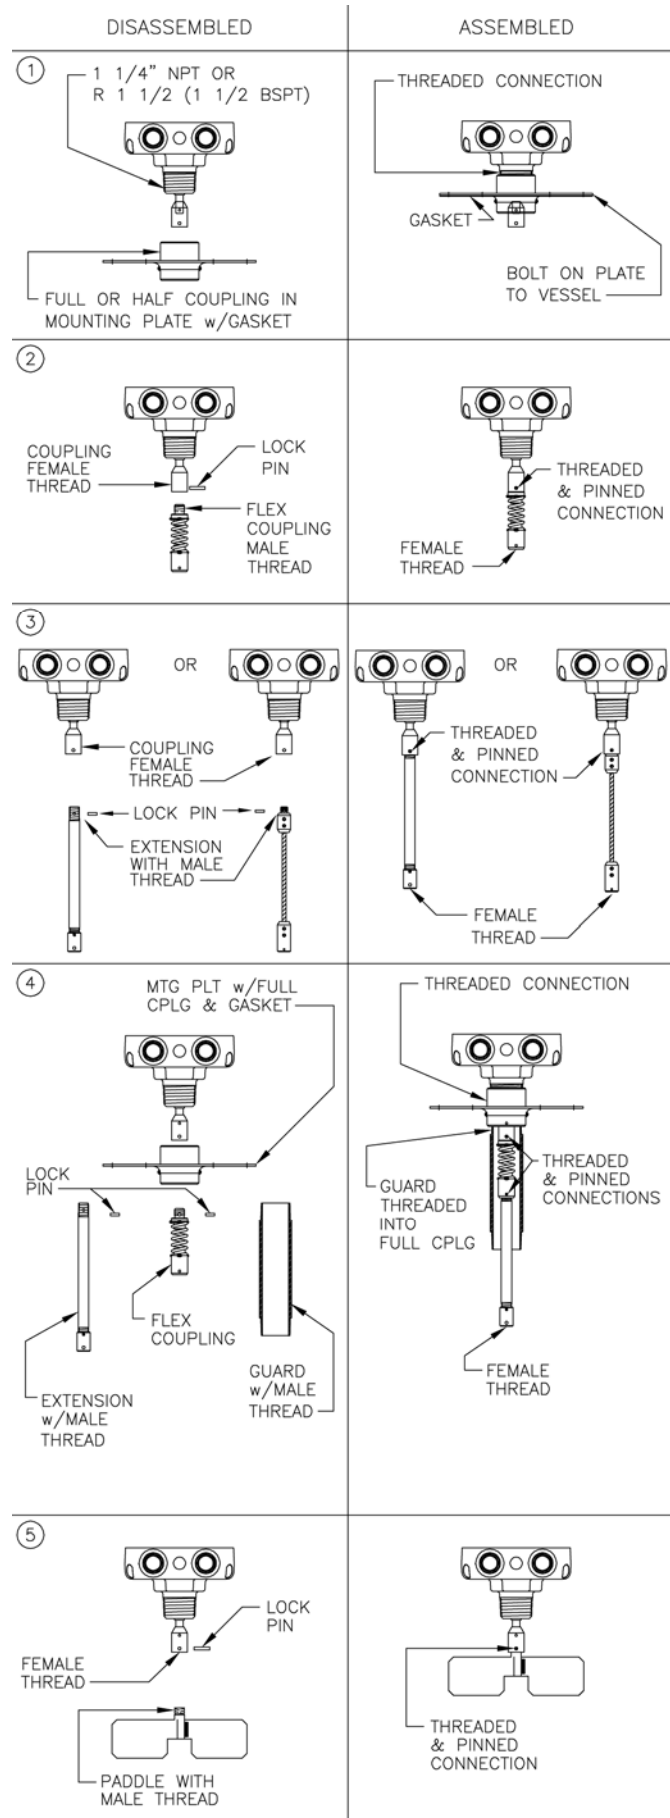

Figure 3
After using the **mounting plate** as a mounting hole template (see Section 3), attach the mounting plate to the PLS unit prior to attaching to vessel. This is particularly advantageous if the paddle to be used is not the insertion type. Grease the paddle unit's threaded hub with anti-seize compound and thread the mounting plate into place until snug. (See also ① of Figure 3 for guidance).
Remove the **lock pin** from the PLS unit. Screw the **flex coupling** into the coupling provided on the PLS unit. Align the "through hole" within the connection and secure with the lock pin. (See ② of Figure 3 for guidance).
Remove the lock pin from the PLS unit (or flex coupling). Screw the **extension** into the coupling provided on the PLS unit (or flex coupling). Align the "through hole" within the connection and secure with the lock pin. (See also ③ of Figure 3 for guidance).
In applications using a mounting plate with a **full coupling**, slide the **1 1/4" pipe** over the shaft extension and secure to the mounting plate coupling. The shaft extension should protrude, from the guard, a distance of approximately 102 mm (4 inches). (See also ④ of Figure 3 for guidance).
The **paddle** should be attached at this time only if it has an insertion type connection or if a mounting plate is being utilized. Remove the lock pin from the applicable connection point (i.e. PLS unit, flex coupling, or extension). Screw the paddle into the applicable coupling. Align the "through hole" within the connection and secure with the lock pin. (See also ⑤ of Figure 3 for guidance).